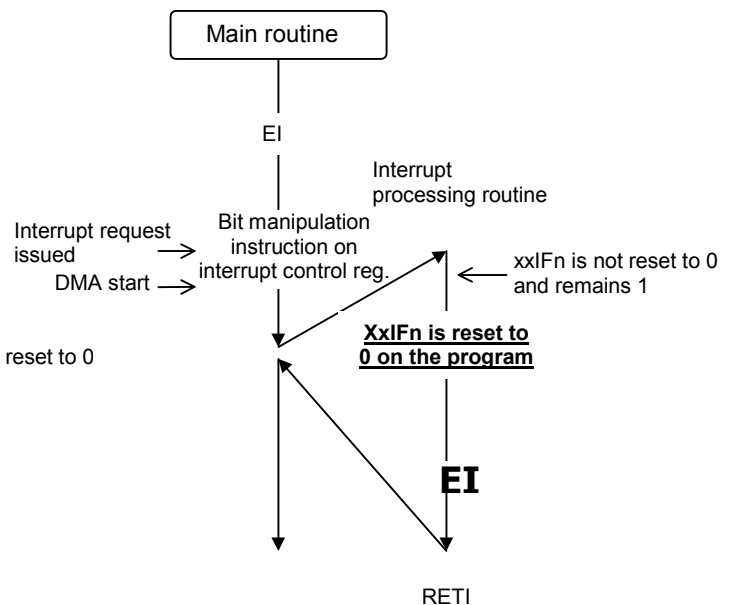

Figure 4. Workaround (2)
- (2) When interrupt processing begins, interrupts are disabled by hardware (the DI state), so clear the interrupt request flag in every interrupt processing routine before executing the EI instruction. (See figure 4.)